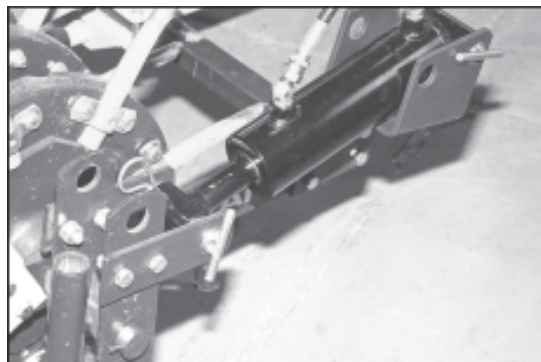

FIGURE 2
2. Install the cylinder mounting brackets (Part No. 522090) onto the right wheel leg assembly, using (4) 7/16-14 X 1" screws, lockwashers and nuts. See Figure 2, Page 6.
4. Remove the (4) 7/16-14 X 1-3/4" screws securing the right frame arm (Part No. 521883) and cover to the frame (Part No. 545645). Retain hardware for later use.
6. Install the hydraulic cylinder (Part No. 545787) in the appropriate holes on the cylinder pivot bracket and the wheel leg assembly, or the cylinder pivot bracket and the cylinder mounting brackets. See Figures 2 and 3, Page 6.
NOTE: For tractors with 700 p.s.i. (4,824 kPa), install the hydraulic cylinder using the front holes in the cylinder pivot bracket, and the holes of the cylinder mounting brackets. Figure 2.